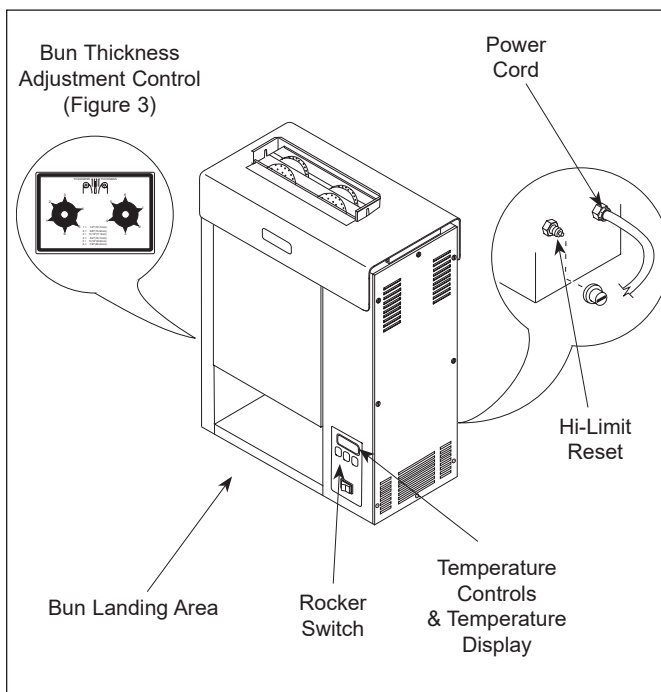

Figure 2. VCT-2000 Toaster
2. Turn the Rocker Switch on. (Figure 2). Allow the toaster to warm up for 30 minutes.
**NOTE: The temperature display (Figure 2) will flash "LO" until the toaster reaches its preset operating temperature. When the toaster approaches the pre-set temperature of 600°F (315°C), "USE" appears in the temperature display and the unit is ready to toast buns. If "USE" does not appear in the window after a warm-up period of approximately 30 minutes, contact your Authorized Service Agency.**
3. Drop Crowns and Heels into the slot (Figure 2). Cut sides of heel and crown must face each other.
4. Toasted buns will drop into the bun landing area (Figure 2) in approximately 10 seconds.
A Hi-Limit Control turns off electrical power to the heater and control circuits if the Platen overheats. To reset the control, allow sufficient time (10-15 minutes) for the unit to cool, then locate the Reset Button at the rear of the unit. Remove the black protective cap, press the Reset Button, and reinstall the protective cap (Figure 2).